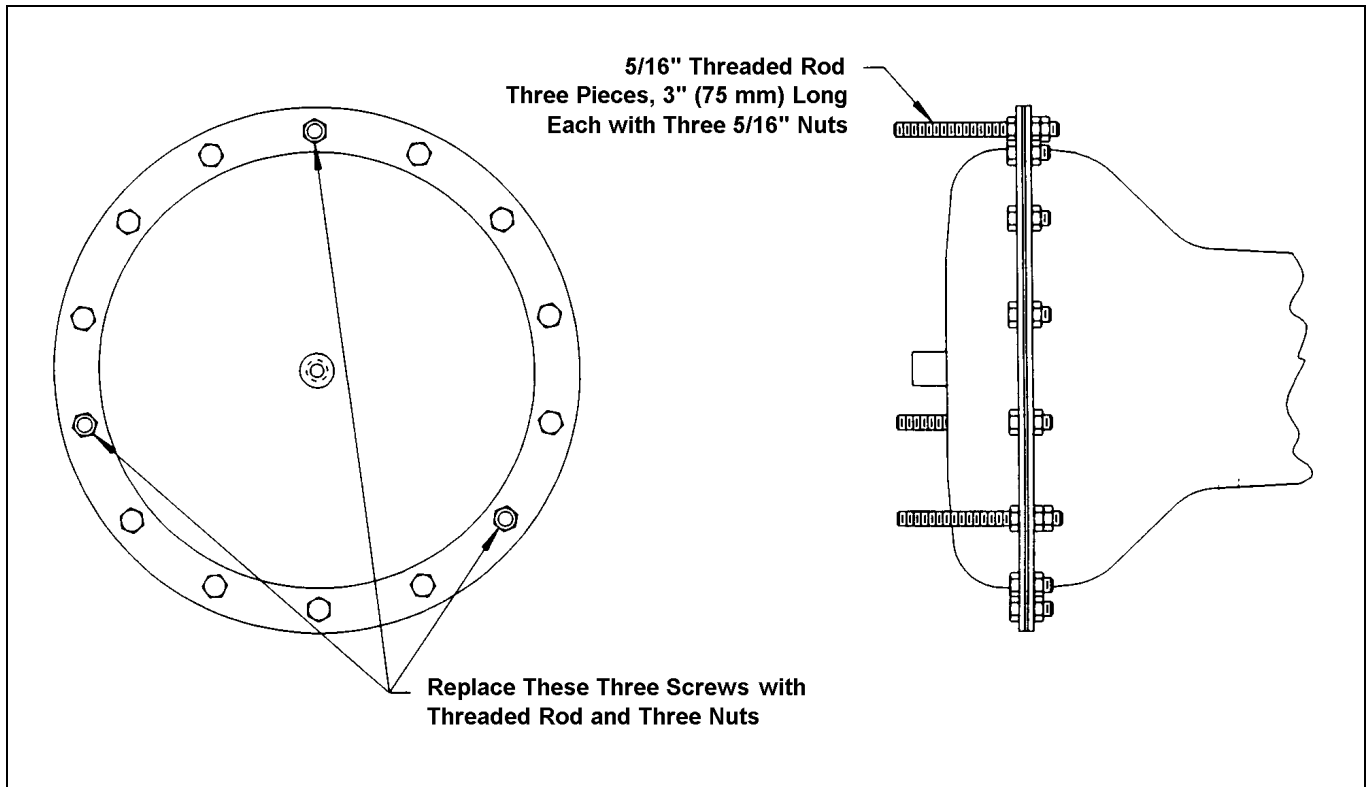

Figure 1—Stud Requirements For DR40 Diaphragm Cover Removal
Note: The three screws removed must be equally spaced as shown in Figures 1 and 2.
5. **For DR40 actuators:** Obtain three 5/16" diameter threaded rods, each at least 3" (75 mm) long, and nine 5/16" nuts. As shown in Figure 1, assemble one rod and three nuts in each of the three holes from which the screws were removed in the previous step. Jam the double nuts together by tightening to 14 ± 2 foot pounds (19 ± 3 Nm); tighten the single nuts finger tight against the cover.